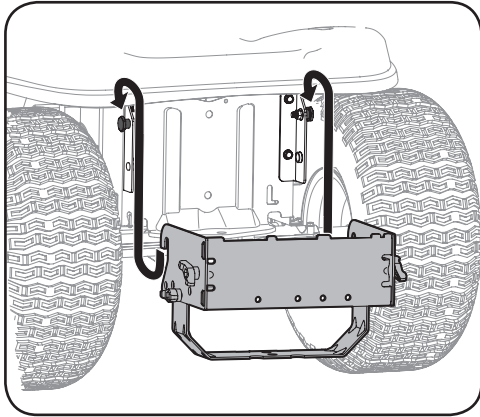

Figure 4-7
1. Place the hooked ends of the mounting assembly over the shoulder bolts, as in Figure 4-7, on the mounting brackets previously installed on the tractor and line up the hitch support bracket center hole with the hole on the tractor's hitch.